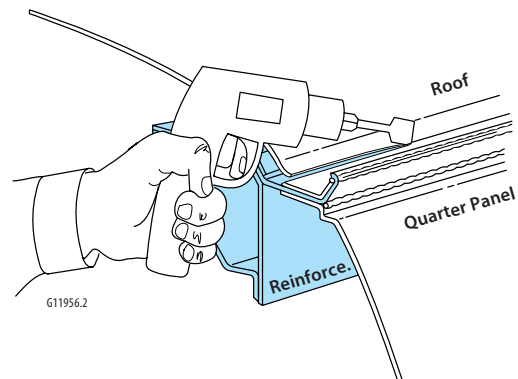

Figure 6-2:
4. Using a panel cutter, cut the sides of the original roof panel at the floor of the “drip rail” leaving the weld flange attached to the roof rail reinforcement (figure 6-2).